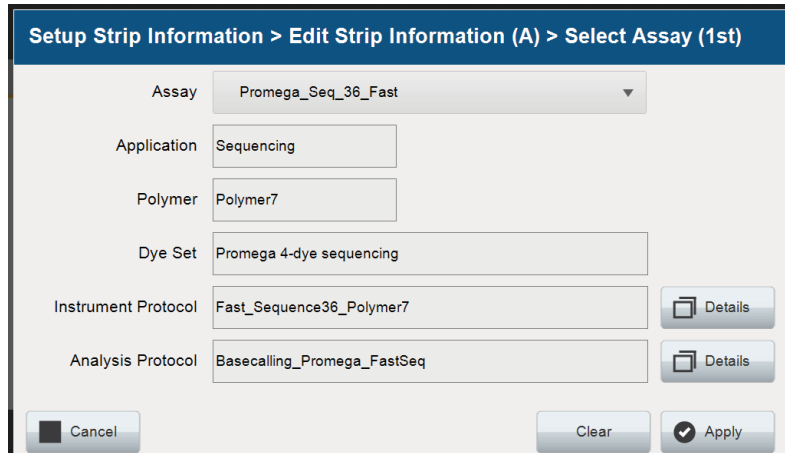
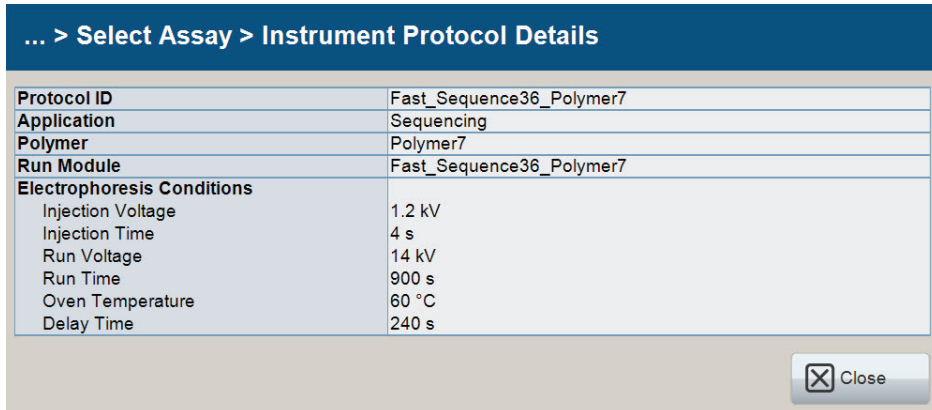
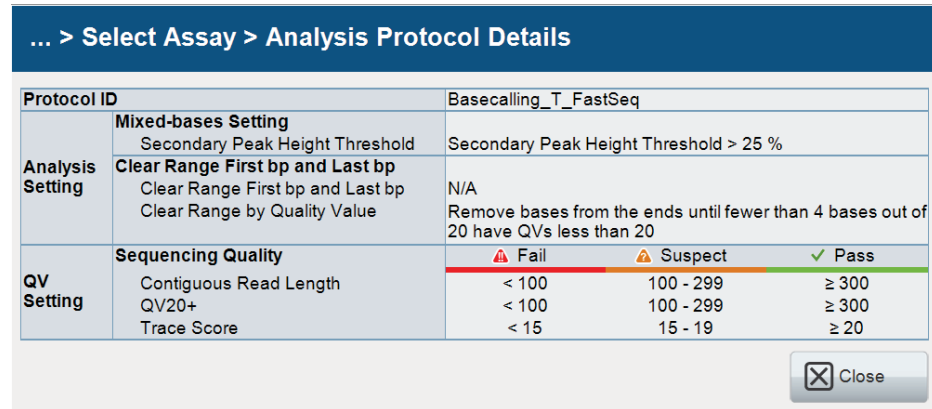

Figure 88. Accessing Instrument and Analysis Protocols on 'Select Assay' screen.
Figure 89. 'Instrument Protocol Details' window.
Figure 90. Sequencing 'Analysis Protocol Details' window.
- You can verify the settings of the Instrument and Analysis Protocols associated with the assay chosen by selecting **Details** next to these fields (Figure 88). This will display a window showing the settings in these protocols but will not allow you to edit these settings (Figure 89 and Figure 90). To edit the Instrument Protocol or Analysis Protocol, see Section 7. When the assay information is confirmed, select **Apply** to return to the 'Edit Strip Information' screen.